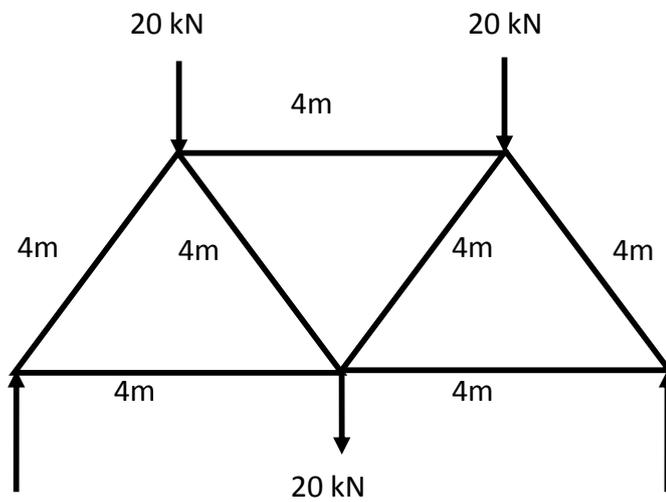

Fig. No. 4
(b) Find forces in all the members of a truss as shown in figure No. 4 by method of joints. **10**
- Q.5** (a) Find forces in all the members of a truss as shown in figure No. 4 by graphical method. **10**